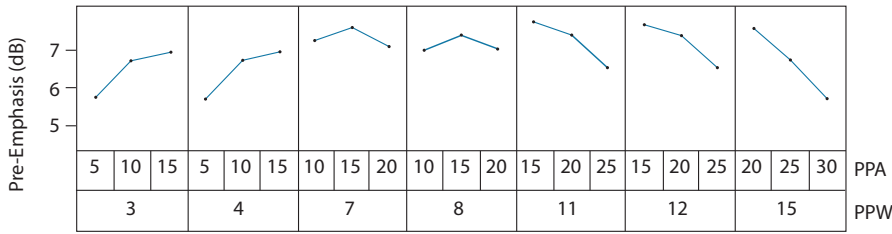
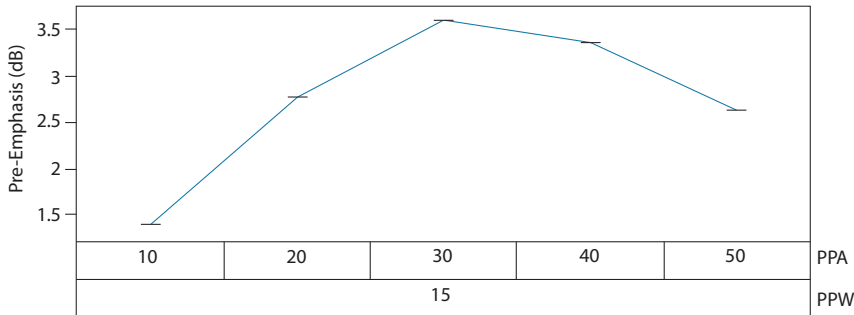

Figure 4-10: Pre-emphasis settings for VCCO__n = 1.2V and DS = 7 (swing = 200mVpp)
Figure 4-17: Pre-emphasis settings for VCCO__n = 2.5V and DS = 35 (swing = 800mVpp)
The only requirement of the trace driver pre-emphasis settings is to minimize ISI introduced by a lossy link and maximize the eye opening at the receiver. The Pre-emphasis compensation of the GS12241 output channel is a two-step process. The first step is to use the settings from Figure 4-10 to Figure 4-17 that best match the insertion loss of the link in the application, while the second step is a fine optimization procedure.
1. Pre-emphasis Amplitude (PPA) Optimization: Set the PPA and PPW to the values obtained from the graph selected out of Figure 4-10 to Figure 4-17, and then measure the downstream jitter. While keeping PPW constant, increment the PPA by 'a'. If the jitter is lower after the first increment, continue to increment by 'a' until the jitter begins increasing or a setting of 50 is reached. If there was a setting which resulted in a lower jitter measurement than the initial setting, that is the Optimized Pre-emphasis Amplitude setting: $PPA_{Optimal}$, and the PPA optimization procedure is complete.
If incrementing the PPA or decrementing the PPA did not result in a setting with lower jitter, then the initial setting obtained from the graph selected out of Figure 4-10 to Figure 4-17 is the PPA optimized Pre-emphasis Amplitude setting: $PPA_{Optimal}$.
2. The second step is to set the PPA to the optimized setting $PPA_{Optimal}$ determined in step 1 and PPW to the values obtained from the graph selected out of Figure 4-10 to Figure 4-17, then measure the downstream jitter. While keeping PPA constant, increment the PPW by 'w'. If the jitter is lower after the first increment, continue to increment by 'w' until the jitter begins increasing or a setting of 15 is reached. If there was a setting which resulted in a lower jitter measurement than the initial setting, that is the Optimized Pre-emphasis Width setting: $PPW_{Optimal}$, and the optimization procedure is complete.
If incrementing the PPW or decrementing the PPW did not result in a setting with lower jitter, then the initial setting value obtained from the graph selected out of Figure 4-10 to Figure 4-17 is the optimized Pre-emphasis Width setting: $PPW_{Optimal}$.